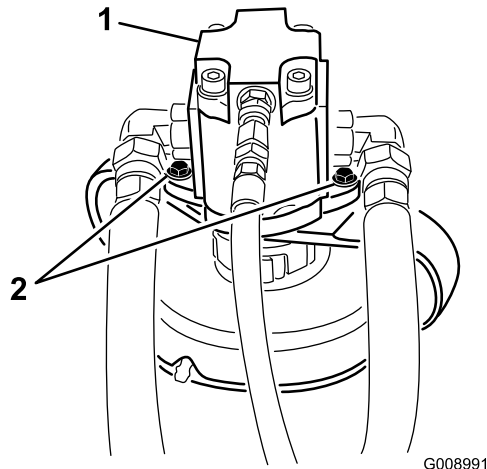

Figure 81
- Remove the bolts securing the hydraulic motor to the cutting unit (Figure 81). Lift the motor off of the cutting unit and lay it on top of the cutting unit.